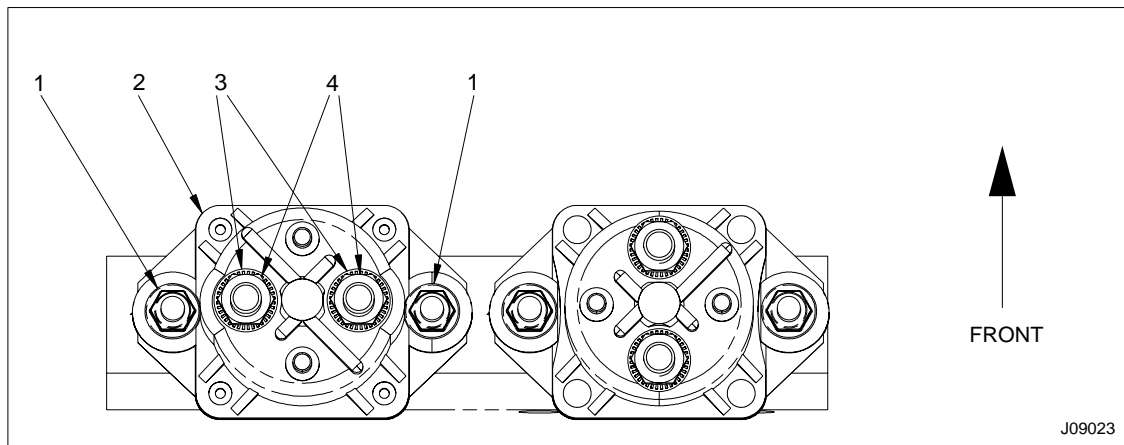

Figure 508 Intake air heater relay mounting connections
1. Install intake air heater relay 2 (Figure 508) onto studs of support bracket.
2. Tighten nuts 1 (Figure 508) to the Standard Torque (page 405).